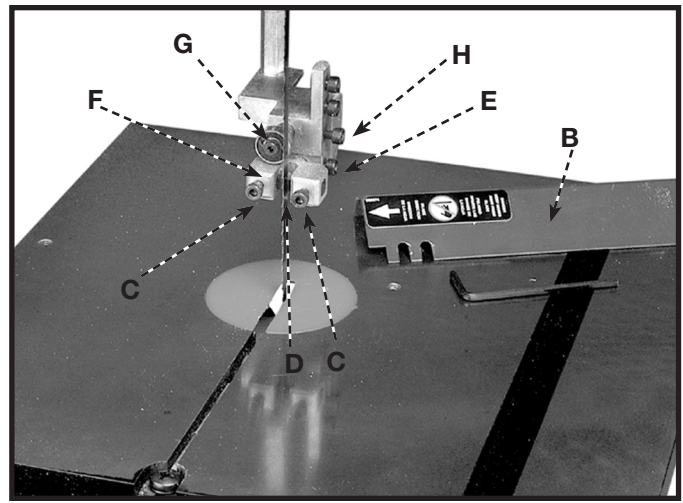
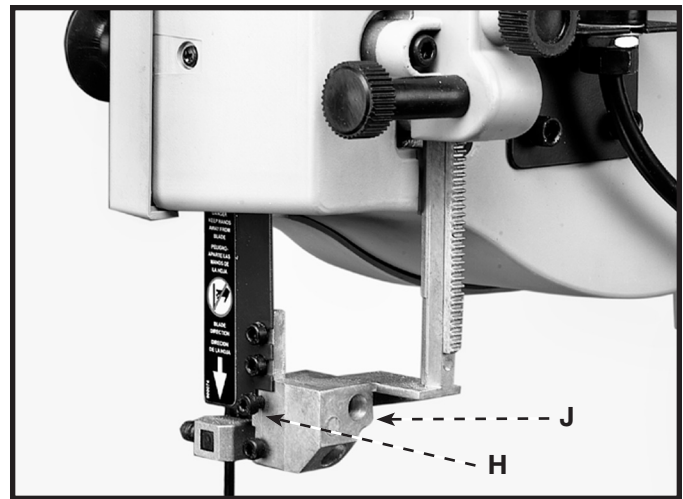

Fig. 27
Fig. 28
⚠ WARNING Upper blade guard (b) Fig. 27 is shown removed for clarity. Always make sure the upper blade guard is installed and properly adjusted before operating the band saw.
1. Loosen the two screws (C) Fig. 27, and adjust the blade guides (D) as close as possible to the sides of the saw blade, being careful not to pinch the blade. Tighten the two screws (C).
2. Loosen screw (E) Fig. 27, and move the guide bracket (F) in or out until the front edge of the guides (D) are just behind the "gullets" of the blade teeth. Tighten screw (E).
3. The upper blade support thrust bearing (G) Fig. 27 prevents the saw blade from being pushed back too far when cutting. The support bearing (G) should be adjusted approximately $1/32$ " behind the blade. The blade should also overlap the outside diameter of the ball bearing by approximately $1/8$ ". To adjust:
4. Loosen screw (H) Fig. 28, and slide support bearing (G) in or out until it is approximately $1/32$ " behind the saw blade.
5. The upper blade support bearing (G) Fig. 27, is set on an eccentric shaft. To change position of bearing (G), use a straight screwdriver, rotate shaft (J) Fig. 28, until the blade properly overlaps the support bearing. Then tighten screw (H).